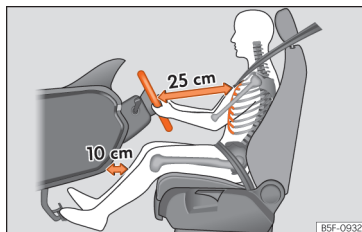

Fig. 3 The correct distance between the driver and the steering wheel must be at least 25 cm [10 inches].
»» Fig. 3 and you can hold it with both hands on both sides, on the outer part, with your arms slightly bent.
- Move the seat in such a way that you can step on the pedals with your knees slightly bent and with a distance between the knees and the dashboard of at least 10 cm (4 inches) »» Fig. 3.